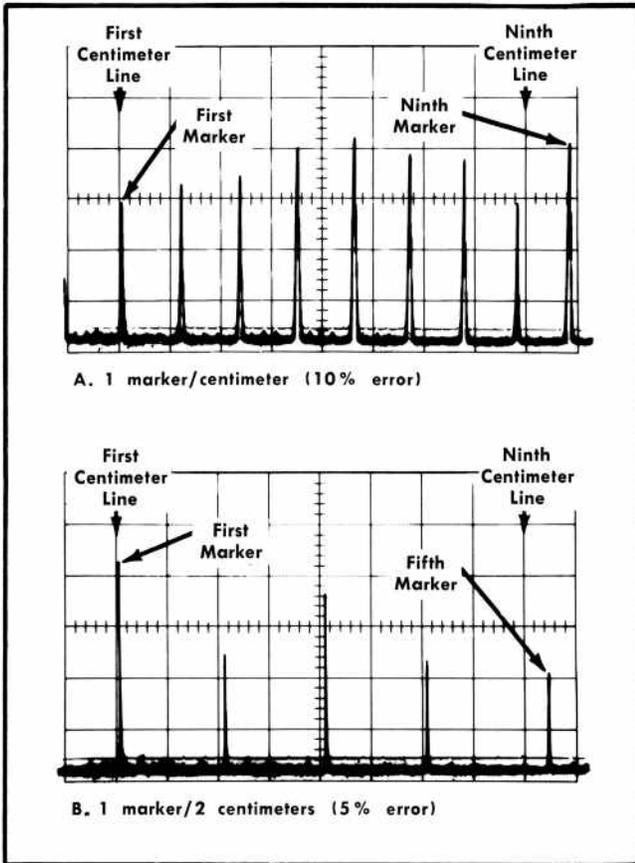

Fig. 5-3. Typical dispersion accuracy displays (step 2).
line, then noting the frequency error as the distance the respective marker is displaced from the 9th centimeter line. See Fig. 5-3.
e. Check the dispersion accuracy and linearity for each MHz/cm setting of the DISPERSION selector as listed in Table 5-1, (see Fig. 5-3 and 5-4). The Horizontal position control or the IF CENTER FREQ control may be used to align the prime markers to the graticule divisions. The RESOLUTION control should remain coupled with the DISPERSION selector.